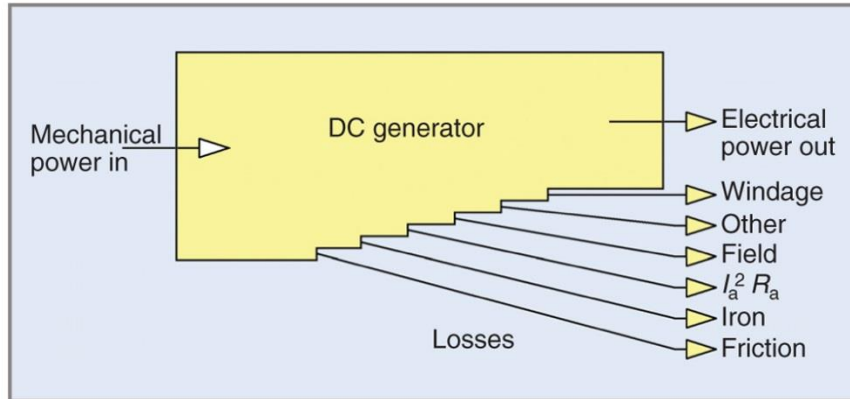

Figure 48. Energy conversion in a d.c. generator
45. The effective voltage or 'IR drop', in the armature is equal to the supply voltage minus the induced e.m.f or 'back e.m.f' as shown in Figure 48.